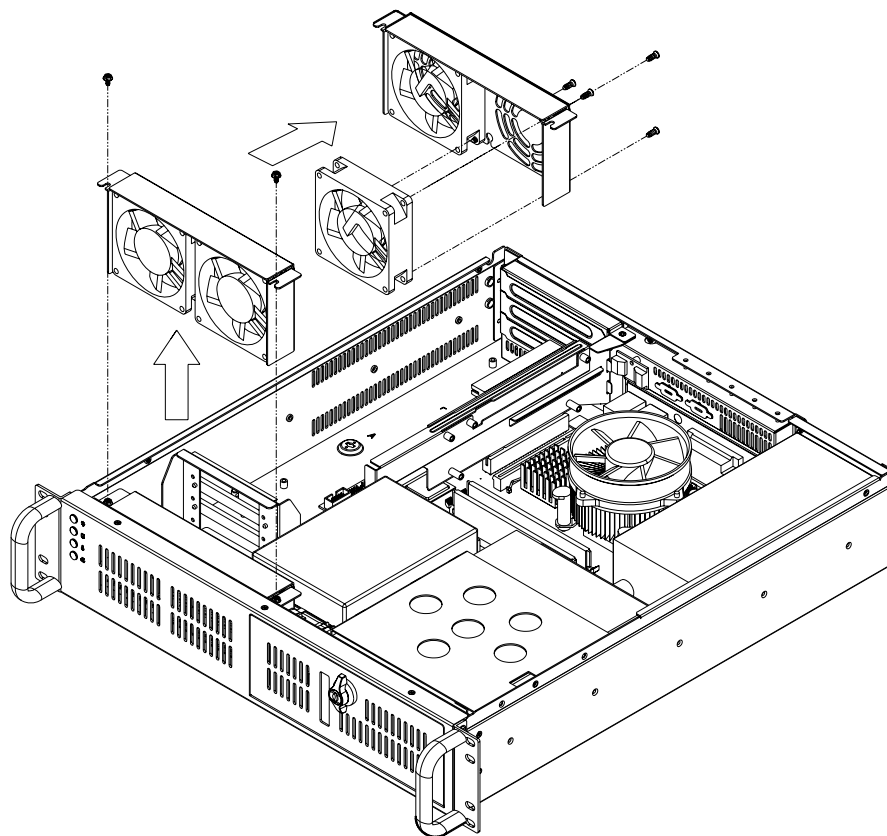

Figure 3.5 Replacing the cooling fan
5. Fix the working fan onto the bracket with the four screws (see Figure 3.5).